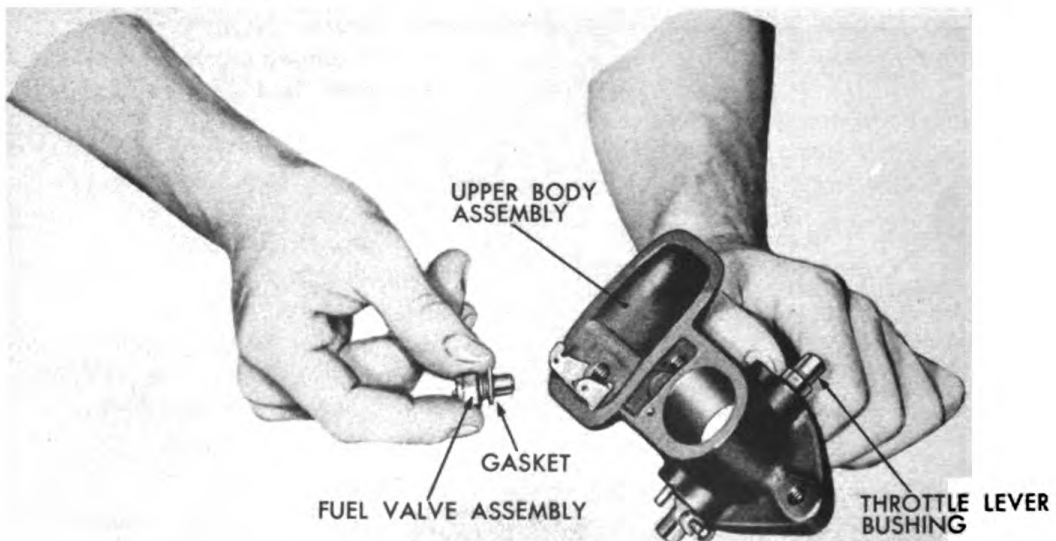

Figure 289. Removing Fuel Valve Assembly.
- g. Remove fuel valve assembly. (T 30016 service tool). See figure 289.
- d. Install fuel valve assembly and gasket (T30016 tool). See figure 289.